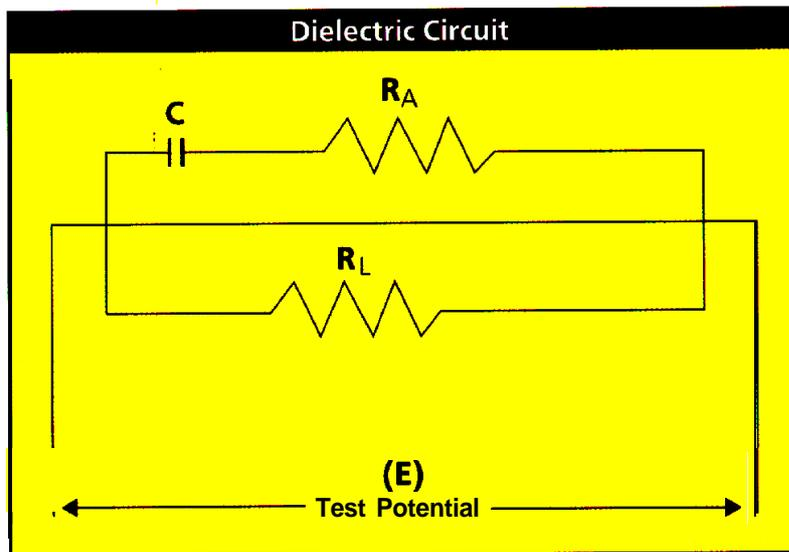

Figure 3.
During a hipot test, the dielectric circuit of any DUT can be broken into three basic components. The dielectric circuit consists of the DUT's capacitance (C), insulation resistance ( $R_L$ ) and series or contact resistance ( $R_A$ ) (Figure 3).